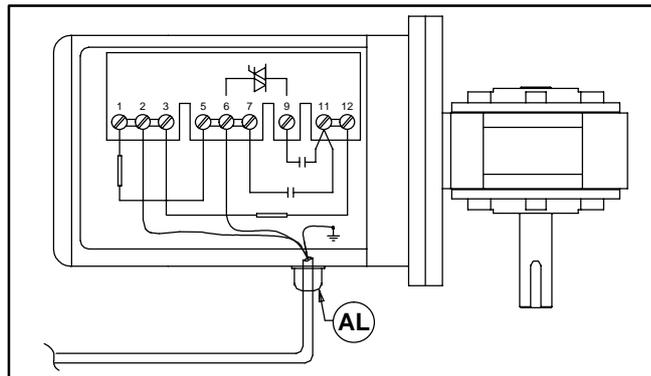

Figure 21
- b. Record wire colors on terminals 2, 6 and ground (\perp) (Figure 21). Loosen terminals 2, 6 and ground and remove wires.
- c. Loosen cord grip (AL of Figure 21) and remove cord.